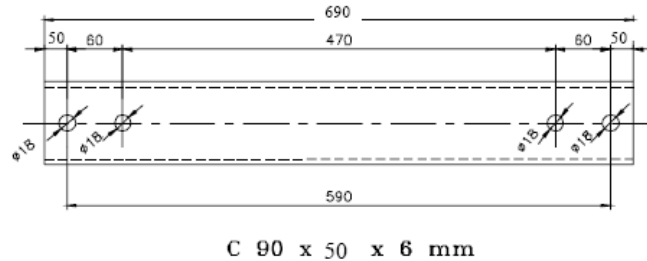

Figure A9 - Profile for anchoring base
- Transformers must incorporate an anchoring base, with two U-profiles, separating the pond bottom floor, at least at 50 mm. The design must conform to Figure A9.